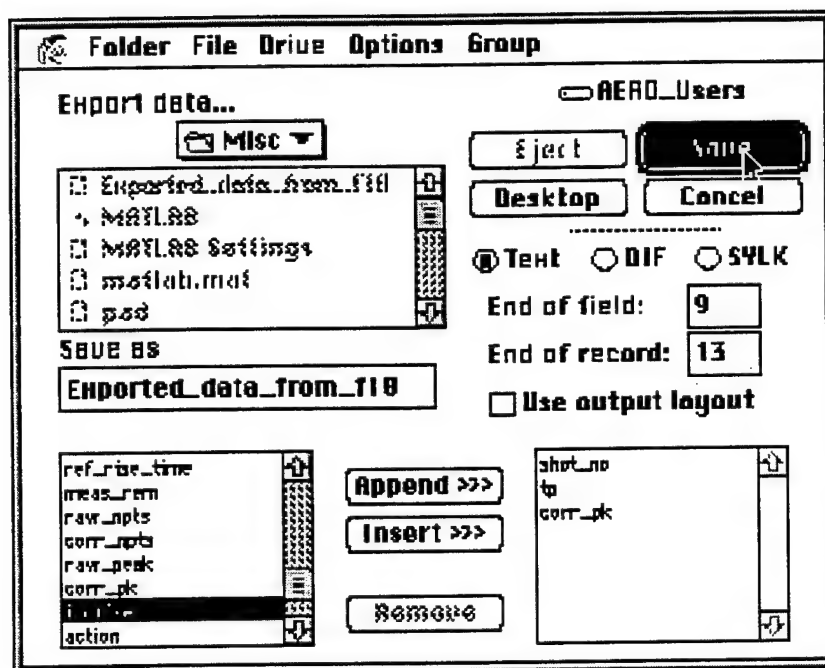

Figure 3.17: Dialog box after selecting shot number, test point, and corrected peak
5. Click on the appropriate field names displayed in the bottom left corner of the dialog box. For this example, select **shot_no**, and click on the “Append” button. Next, click on **tp** and then “Append”. Finally, scroll down the list until you find **corr_pk**, click on it to select it, and then click on the “Append” button once again. The dialog box should now look something like Figure 3.17.